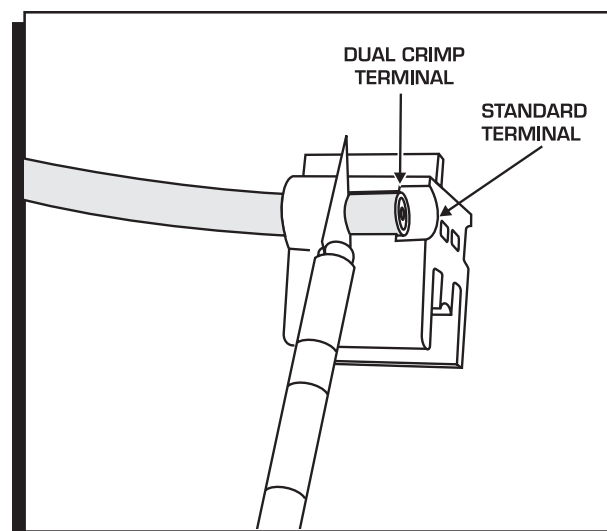

Figure 2 Stripping the Sleeve.
2. There are two stripping positions indicated on the stripping slot, depending on the terminal being used. Slide the wire to the correct position and strip the sleeve by holding a razor blade flush with the strip guide and rotate the wire 360° (Figure 2).